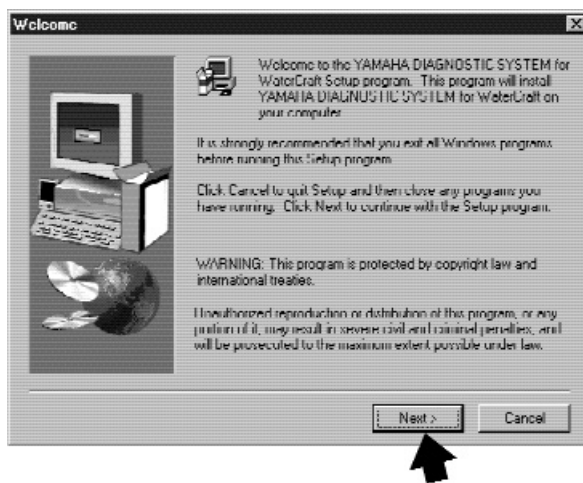

Fig. 3
4. Click the **Next** button to start the installation process. (Fig. 3)